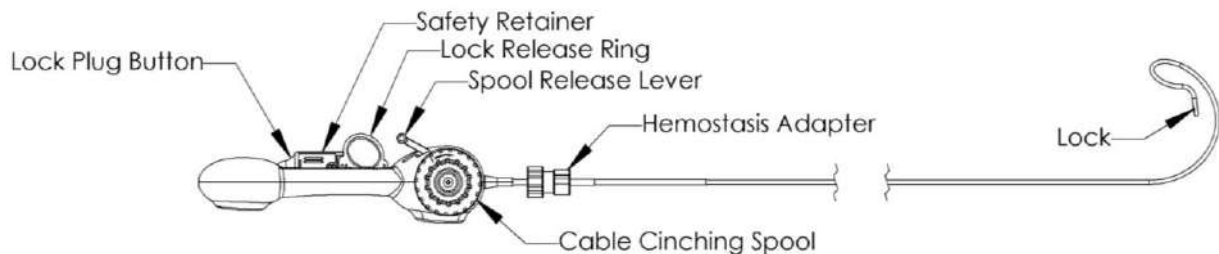

Figure 6. Cinch and Lock Catheter
- Cinch and Lock Catheter** – a catheter that tracks over the Cable within the Guide to the final Anchor placed, enabling controlled tensioning of the Cable and deployment of the Lock. The handle of the catheter provides controls for Cable tensioning and Lock engagement. See Figure 6.